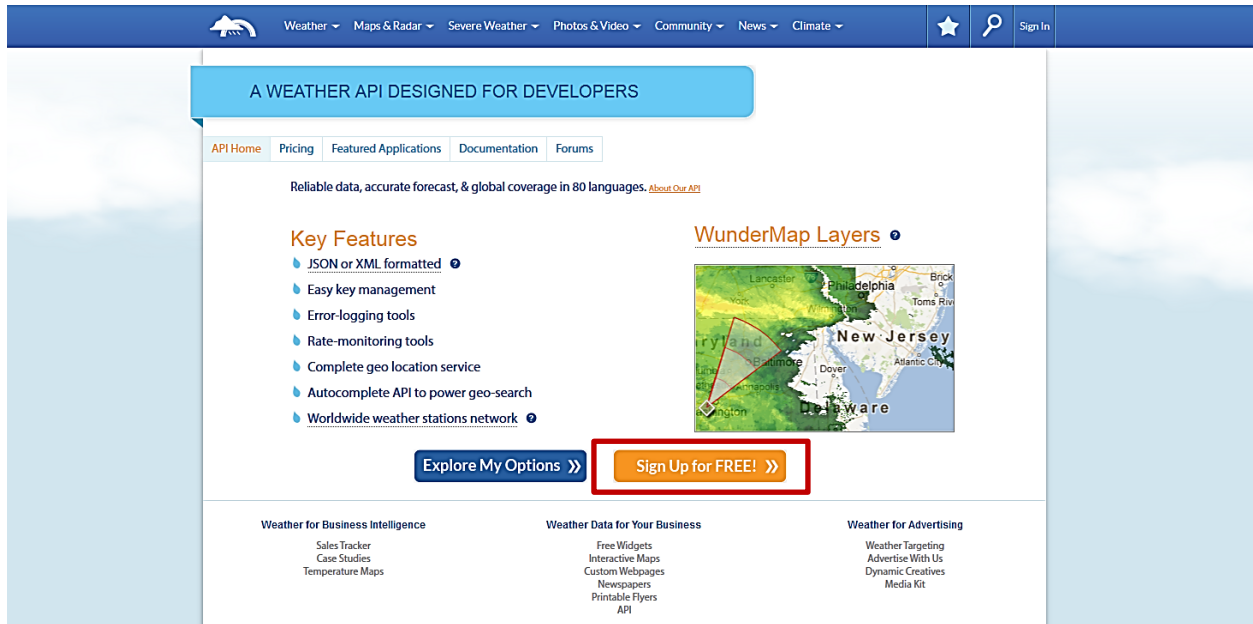

Figure 19: WeatherUnderground Website
- Go to WeatherUnderground site (Figure 19) the following URL <http://www.wunderground.com/weather/api/>